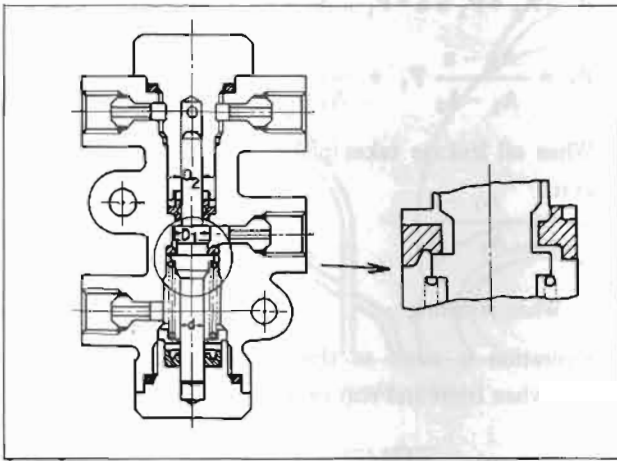

Fig. BR-10 Plunger and seal operation when pressure is applied (under split point)
When pressure further drops down to the split point, the plunger is pushed by spring force, the condition recovers to the original condition, and with the balance of equation (1) being maintained, oil pressure drops. (Refer to Figure BR-10.)
front brake side becomes 0, depressing the plunger downward by force of $(P_1 \times a - P_1 \times A_2)$. Passage is opened until it overcomes spring and friction forces F , and hence, oil pressure on the master cylinder rear side is balanced with that on the rear wheel cylinder side. (Refer to Figure BR-10.)